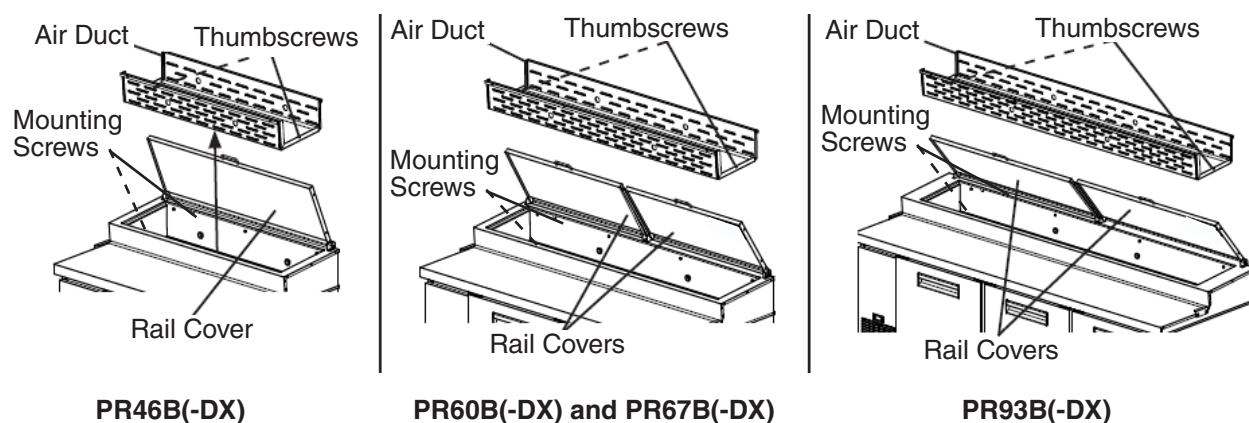

Fig. 49
- (1) Remove the thumbscrews and front and back mounting screws, then remove the air duct. See Fig. 49.
- (2) Wipe the air duct panel (top and bottom), rail area (sides and top), and surrounding mounting area with mild soap or detergent and warm water. Clean any rust colored spots using a non-abrasive cleanser. After cleaning, wipe the air duct panel with water.
- (3) Replace and secure the air duct panel in its correct position. Be sure the thumbscrews and mounting screws are installed and tightened. **NOTICE! Air duct panels must be replaced in the proper location and orientation. See Fig. 49. Otherwise, cooling performance will be reduced.**